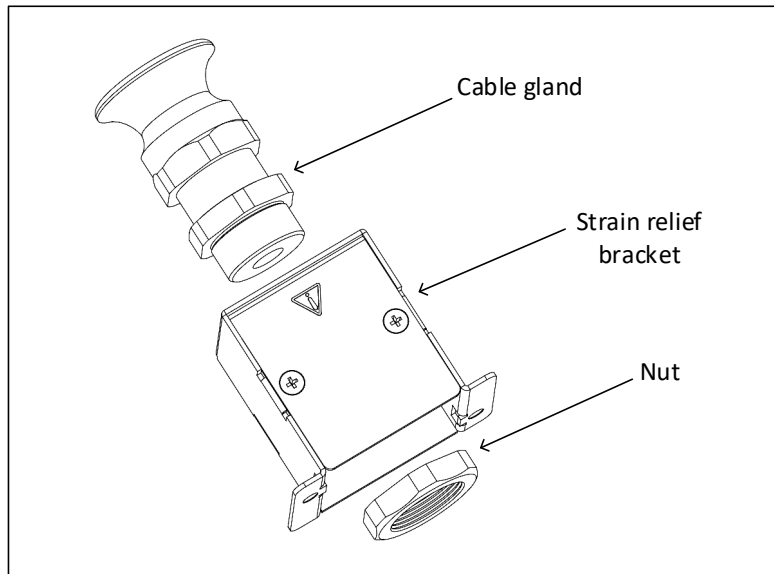

Figure 4-4: Insertion of the Plastic Nut into Strain Relief Bracket
2. Insert the Cable gland into the Strain relief bracket Assembly as shown in Figure 4-4.